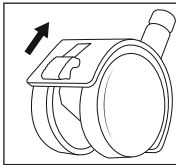

Fig. 5
- ◆ The appliance comes with four castors **10/11** for easy transport. Release the levers on the two castors with locking levers **11** by pushing the levers upwards (see fig 5). The appliance can now be rolled conveniently.